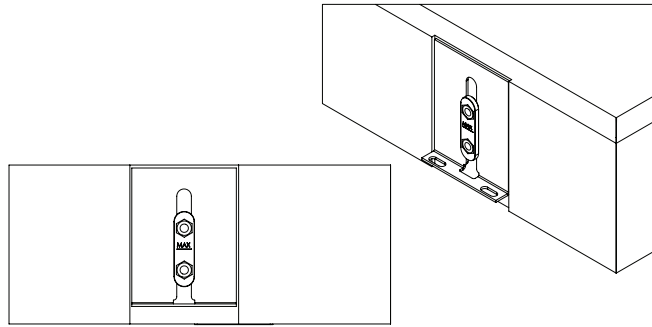

Figure 12
5. Secure L-brackets to tabs with 8 supplied machine screws. (See Figure 12).